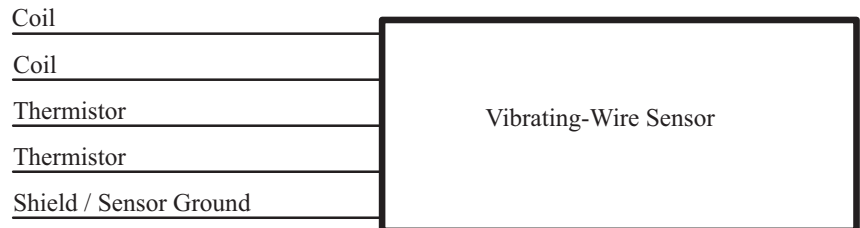
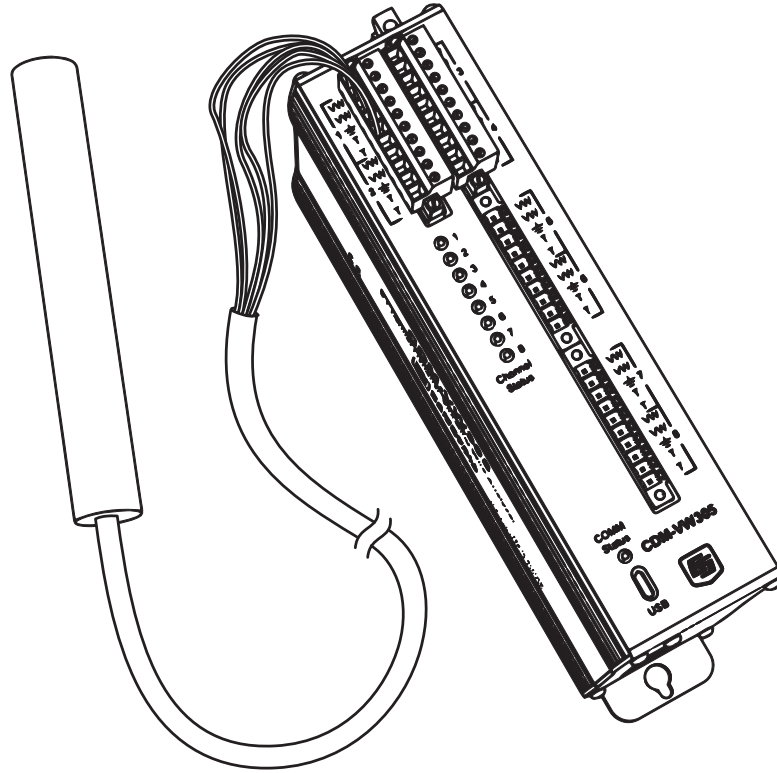

FIGURE 7-7. Five-wire, vibrating-wire sensors leads
FIGURE 7-8. Five-wire vibrating-wire sensor connection
For sensors with five lead wires, three wires operate as described previously for a three-wire configuration. The additional two leads are thermistor leads, and, as illustrated in FIGURE 7-7 and FIGURE 7-8, can be wired to the thermistor (T) channels on the analyzer.